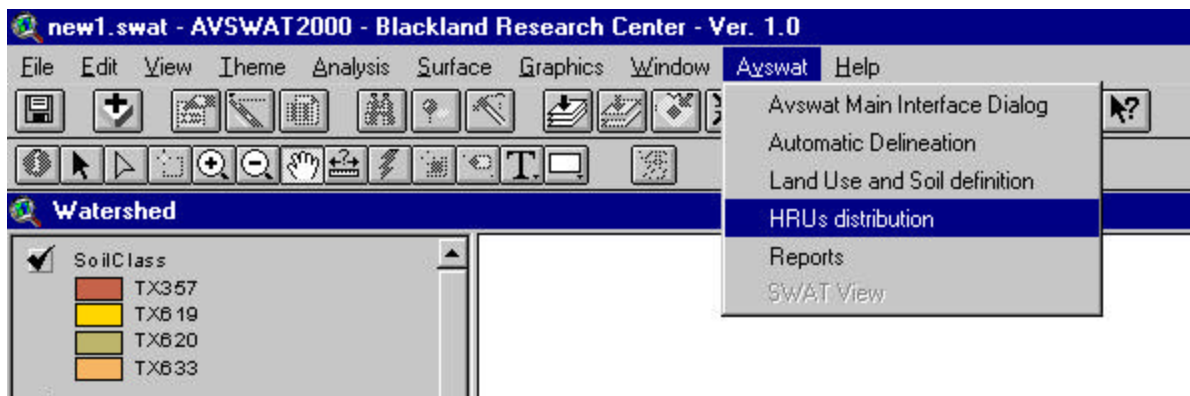

Figure 6.52
1. Select **HRU distribution** from the *Watershed View* menu **Avswat** (Figure 6.52).